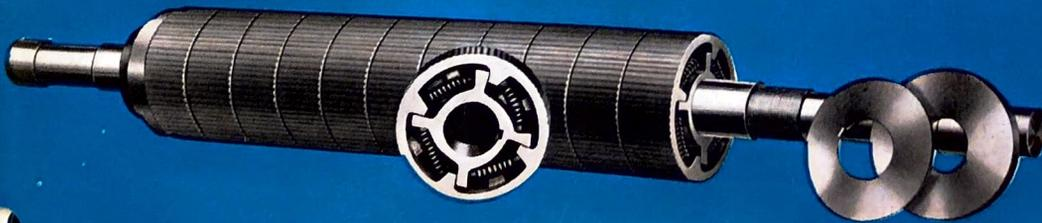

FIG. 5
**The 2" Sectional Roll** is made of steel castings of similar construction. The Outer Ring Section is completely machined to 5-3/16" diameter and 2" wide. It is driven by a staggered eight-splined spider section, bored and fitted to the 1-15/16" diameter keyed shaft. The 2" and 1" wide sections will interchange on the same Driving Roll Shaft. The 2" Sectional unit has eight springs each 2" long — four on each side. The dividers also interchange, and each unit is packed in graphite grease. This type of sectional roll has an independent yield of 3/8" and is recommended for first cutting of great variations, also finishing planing and wide panel stock. (See Fig. 5) (Selection optional).